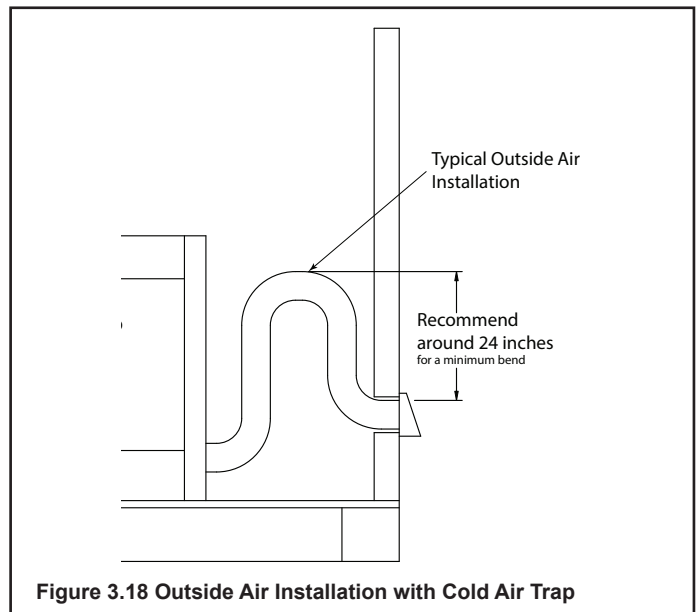

Figure 3.18 Outside Air Installation with Cold Air Trap
An outside air kit must be used for combustion. Hearth & Home Technologies recommends you utilize the shortest duct run and install a P-trap (see Figure 3.18) to optimize the performance of the outside air kit with a maximum length of 40 ft. The outside air inlet hood should be positioned in a manner that will not allow snow, leaves, etc. to block the inlet. In some installations the air duct may need to be run vertically. In such an installation, a 3 ft (914 mm) height difference must be maintained from the top of the uppermost chimney section to the outside air inlet hood.
- Use 6 in. (152 mm) UL181 Class1 or Class 0 rigid or flexible ducting (not supplied) to directly connect outside air to fireplace intake. Insulate the pipe to prevent frost condensation. See Figure 3.18.